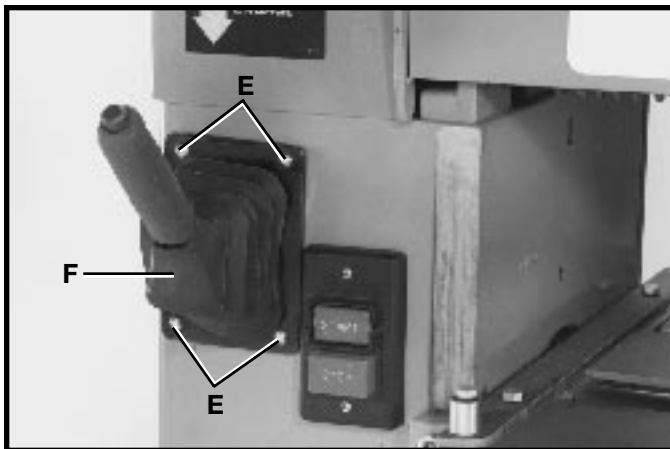

Fig. 31
2. Remove four screws (E) Fig. 31, which hold engagement lever boot (F) to the machine.